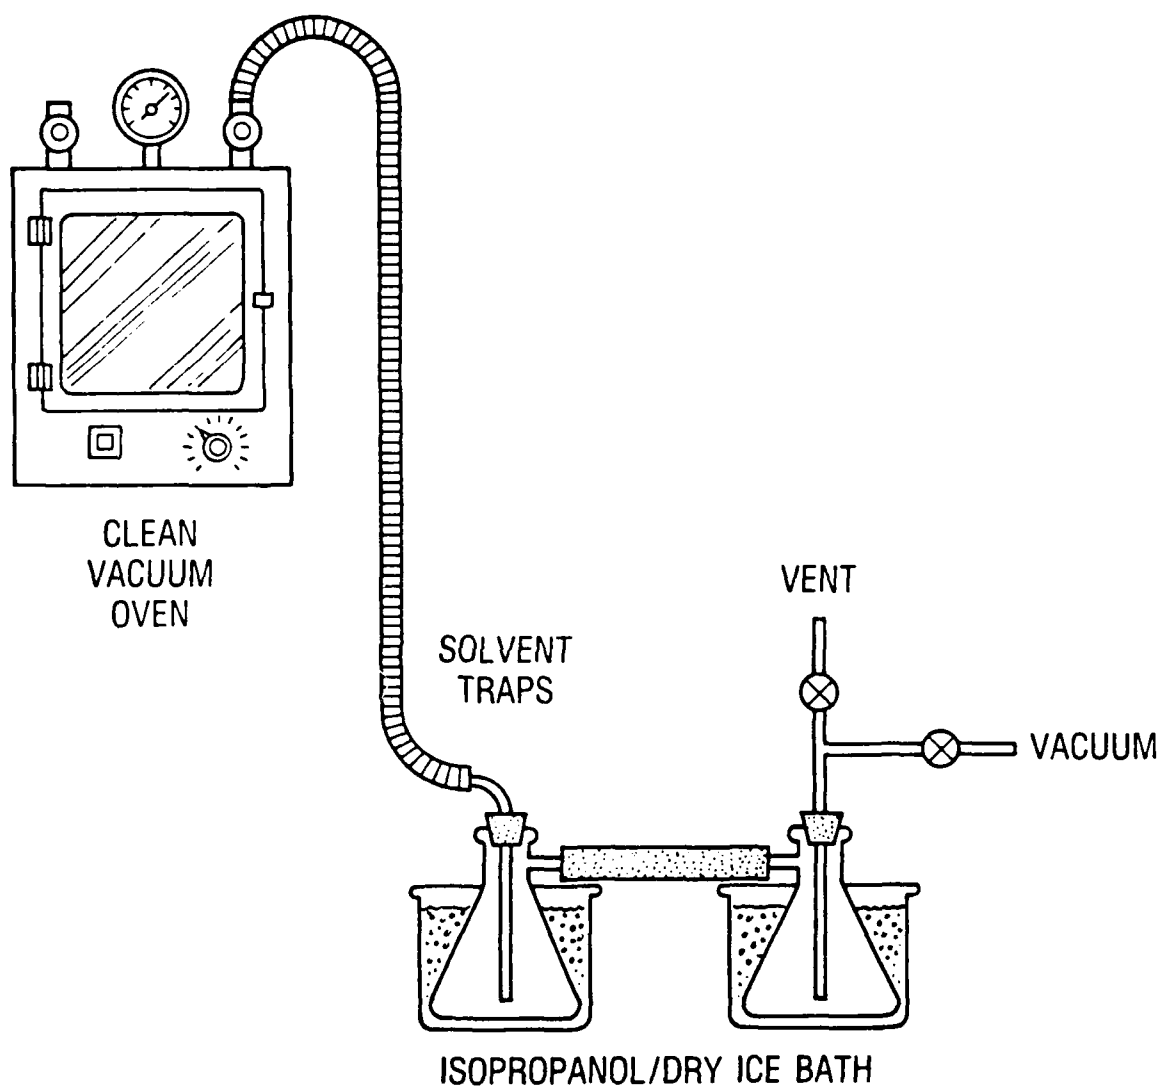

Fig. A-2. Vacuum System for Solvent Evaporation
4.4(A) Vacuum evaporation system, consisting of a vacuum oven, a two-stage vacuum pump, and vacuum gauge. The vacuum oven should be controllable to $25 \pm 5^\circ\text{C}$. The system, shown in Fig. A-2, is exhausted through a series of two low-temperature traps to collect the solvent vapors and prevent damage to the vacuum pump. The solvent traps are cooled using an isopropanol/dry ice bath. The oven shall not produce molecular and particulate contaminants and should not be used for other operations that could contaminate samples.